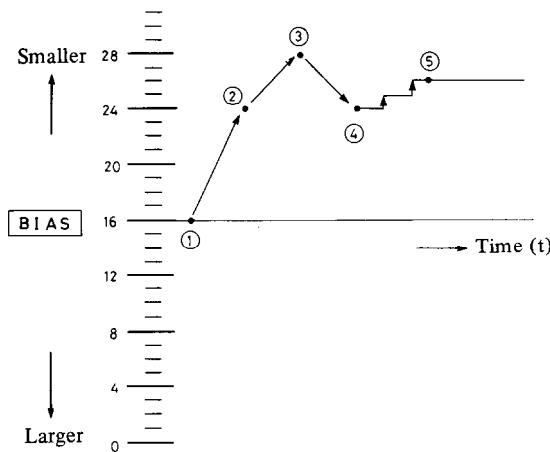
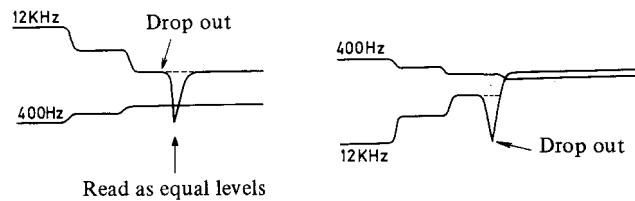
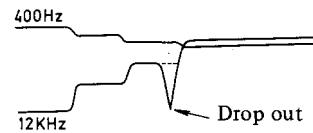

Fig. 2 Bias adjustment method
Fig. 3 Example of misoperation caused by drop out
Fig. 4 Example where effect of drop out is avoided
First the bias is set to step 16 which is in the center of the bias range shown in Figure 2. Then the 400Hz/12kHz mixed signal is subjected to a comparison operation to see which component is larger. If the 12kHz signal is larger, then the bias level is too small. If the 400Hz signal is larger, on the other hand, the bias level is too large. In the example shown in Figure 2, the bias level at step 16 is too large, so the bias is reduced by  $\frac{1}{4}$  of the total range (8 steps) to position (2) where the 400Hz and 12kHz components are again compared. If the 400Hz signal is still larger than the 12kHz signal, the bias level is further reduced by  $\frac{1}{8}$  of the total (4 steps) (3) and the components then compared again. This procedure is used for rough adjustment of the optimum bias. If at this stage, the 12kHz signal is now found to be greater than the 400Hz signal, the optimum bias is known to exist between steps 24 and 28. The operation is now switched to fine adjustment — the bias is increased by  $\frac{1}{8}$  and then reduced one step at a time from step 24. The step where the component signal size relationship is switched from 400 > 12k to 12k > 400 is taken as the optimum bias (5), and the bias is set at this level. This fine adjustment operation proceeds only from greater to lower bias levels in order to avoid misoperation due to possible drop outs. The effects of a drop out on the bias adjustment when the bias is changed from a smaller to a larger level is indicated in Figure 3, while the reverse case is indicated in Figure 4.